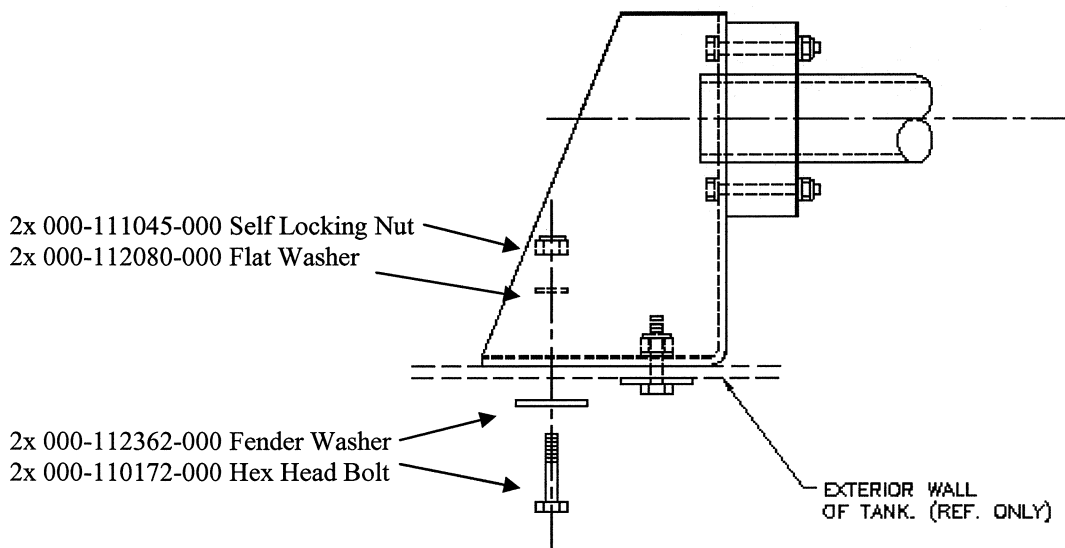

Figure 4
11. Install the bearing block assembly per Figure 4. Apply RTV to each bolt and washer as it is installed into the tank.